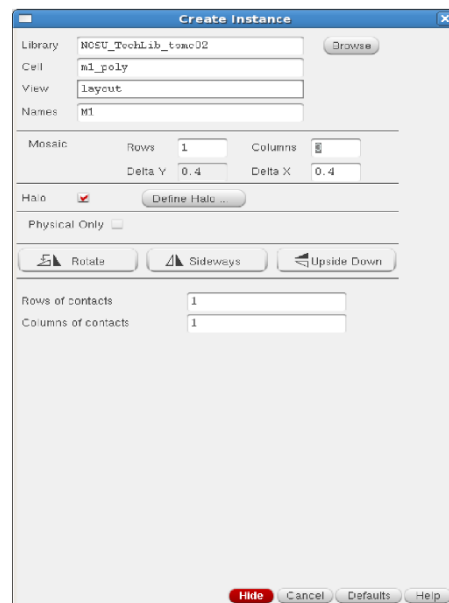

Figure 11. Adding a contact
- To insert contacts to connect 2 different layers, please select “Create > Instance” or use the “i” hot key (you could consider contact is a special instance like mos). Choose a proper Contact Type according to the layers you are connecting. Please refer to the **Figure 11** as an example which is creating a contact between “Metal 1” layer and “Poly” layer by choosing “m1_poly”.